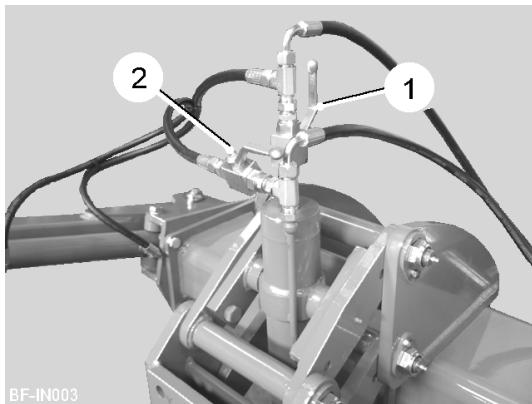

Fig 3
To minimise frame stress, the 4-bodied Bedformer has automatic depth adjustment (half depth to full depth) on the outer ridger bodies. This promotes equal pulling forces across the machine, making the tractor more controllable and easier to drive in a straight line. Operation is fully automatic, activated when the markers are changed over by the driver at the ends of the field. The tap (item 1, fig 3) on top of the parallel linkage ram allows the ridger to be locked in position.
The marker and parallel linkage hydraulic circuit is designed so that when an outer ridger body is in the raised position the adjacent marker arm is in the lowered position. If the ridger and markers get out of sequence the marker arm taps (item 2, fig 3) can be used to re-sequence them. When in work the marker arm taps should be in the unlocked position (as shown).
1. Unlock one of the marker arms by opening the tap (item 2, fig 3).
1. Lock the raised marker arm by closing the tap (item 2, fig 3).